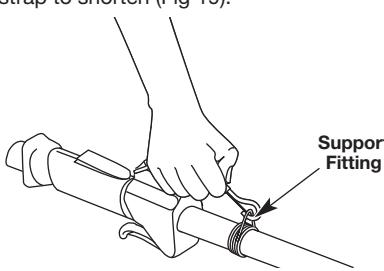

Fig. 18
- Put the harness on over head and onto shoulder. Snap it onto the support fitting (Fig. 18).